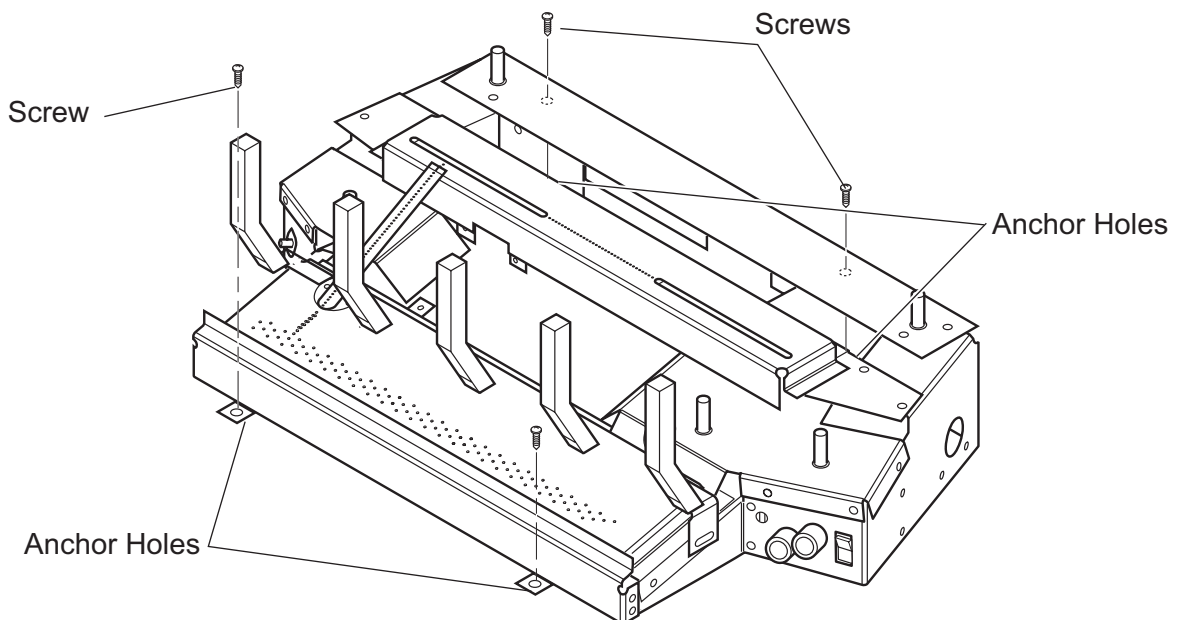

Figure 14 - Securing Heater to Floor of Fireplace/Firebox
2. Anchor holes are located in front of the unit and in the back (right and left sides) of the unit. After centering the grate correctly, mark the hole positions on the fireplace/firebox floor. Drill two (2) $\frac{5}{32}$ " diameter holes approximately $1\frac{1}{2}$ " deep.
3. Anchor the grate to the fireplace/firebox floor using the screws provided. See Figure 14.